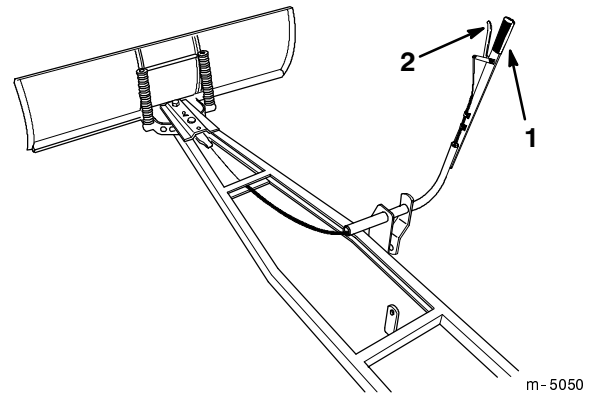

Figure 20
2. Squeeze the release lever toward the handle (Fig. 20).